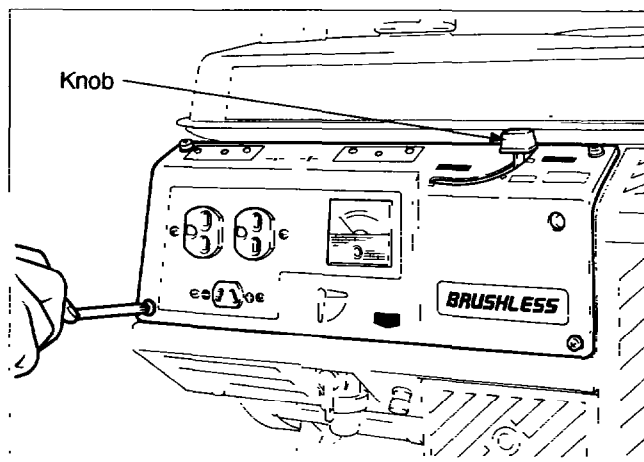

Fig. 10-3
| 3. | Control panel | (1) Pull the knob off the control lever and remove the control panel by unscrewing four M5 × 8 screws. (See Fig. 10-3.) | | (+) Plus driver |